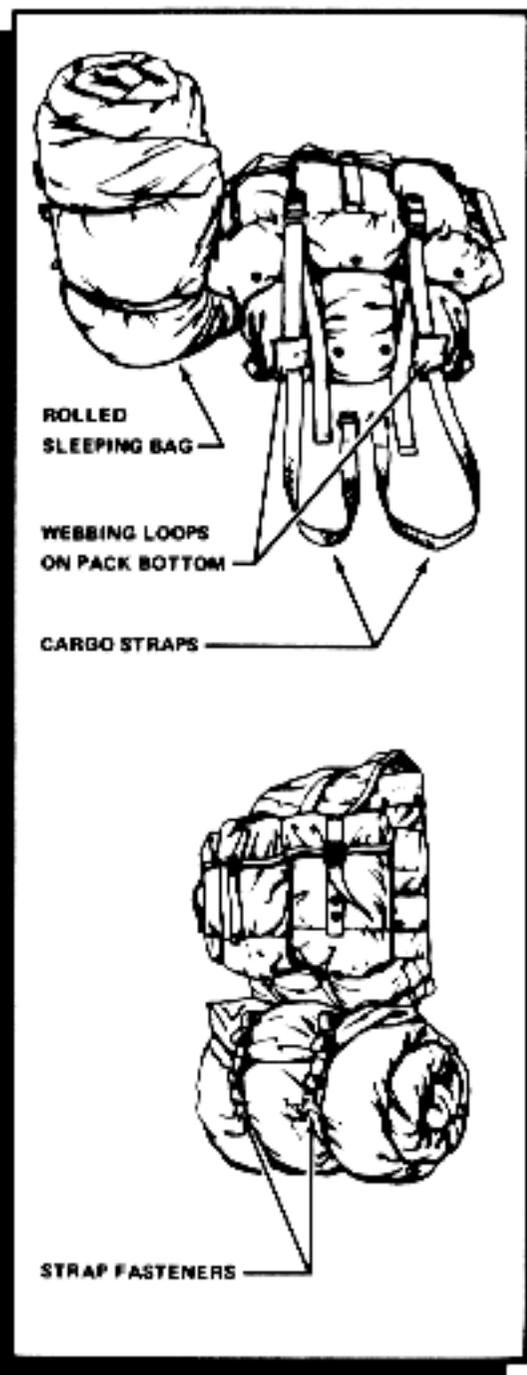

Figure 4-29. Attaching sleeping bag.
**Attaching Sleeping Bag.** When using the large combat field pack, always carry your sleeping bag inside the pack. When using the medium combat field pack, carry the sleeping bag inside or outside the pack. To attach the bag to the outside of the pack (figure 4-29)—